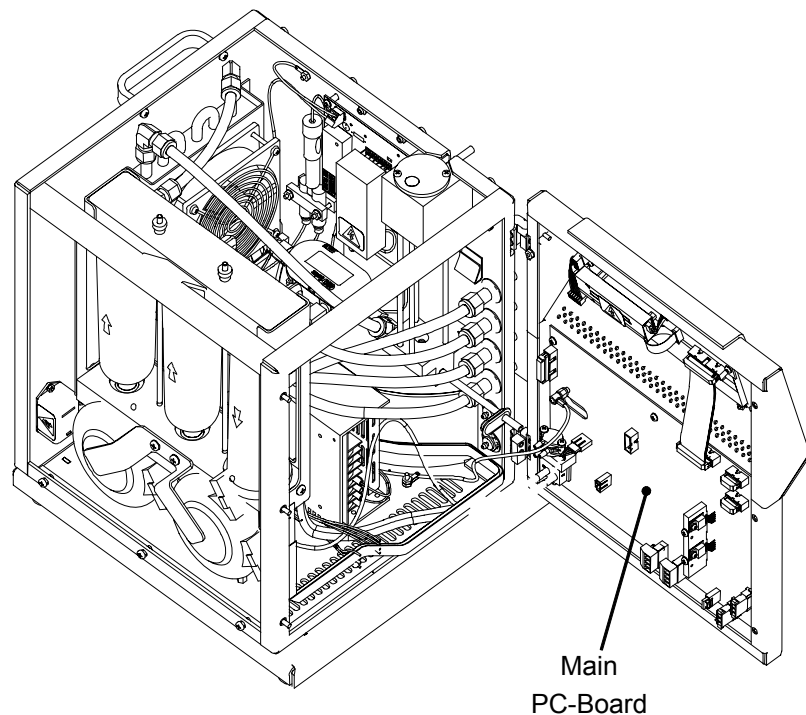

Figure 6-9
2. Remove the cabinet cover by loosening the seven (7) screws on the side panels securing the cover (the screws do **not** have to be removed).
5. Swing the front panel open (only 90 degrees) to gain access to the main pc-board as shown in Figure 6-9. Have someone else support the door as you work on the pc-board.